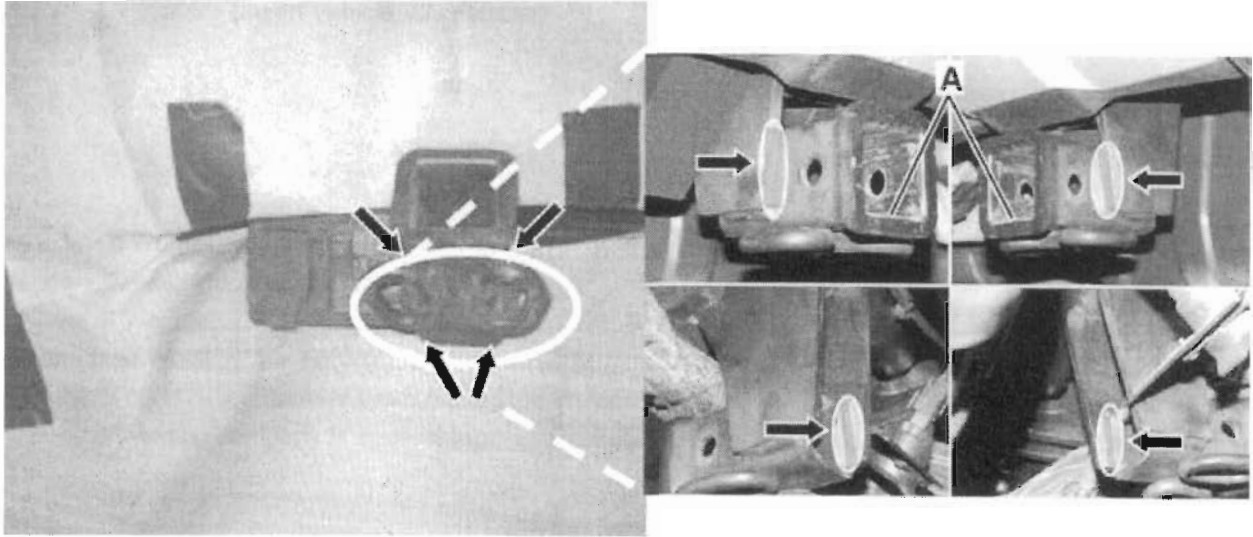
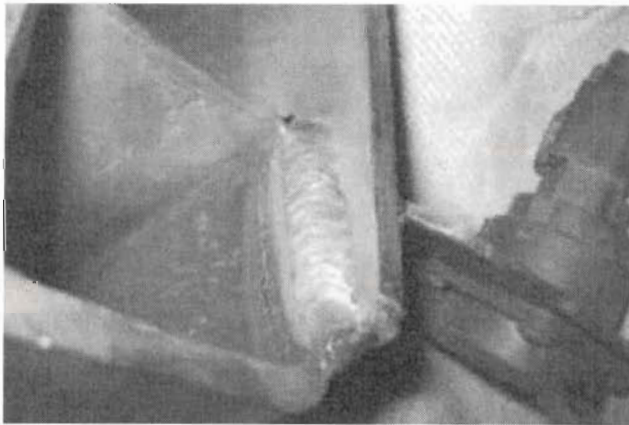

Figure 1
Figure 2
1. All four weld points (arrows, Figure1) and welder's ground point in square tube (A) ground down to metal ☐
2. All four welds properly welded (Figure 2) at all 4 weld points (arrows, Figure 1) ☐